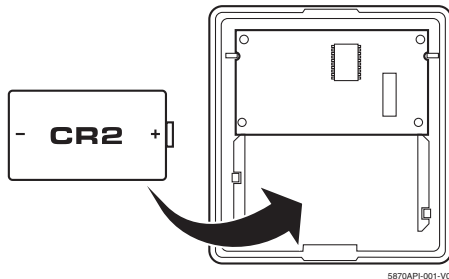

Figure 2 – Replacing the 5870API Battery
3. Check the battery polarity orientation before installing (see Figure 2).